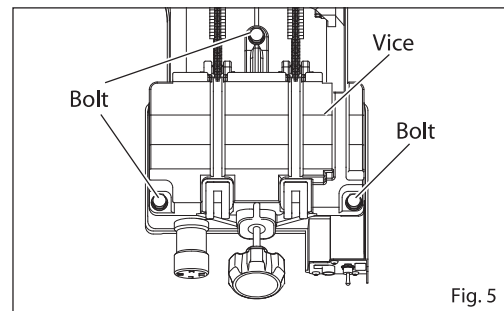

Fig. 5
## 1. Changing the Vice (Fig. 5~7)
- (1) Undo the 3 bolts and remove together with the washers. (Fig. 5)